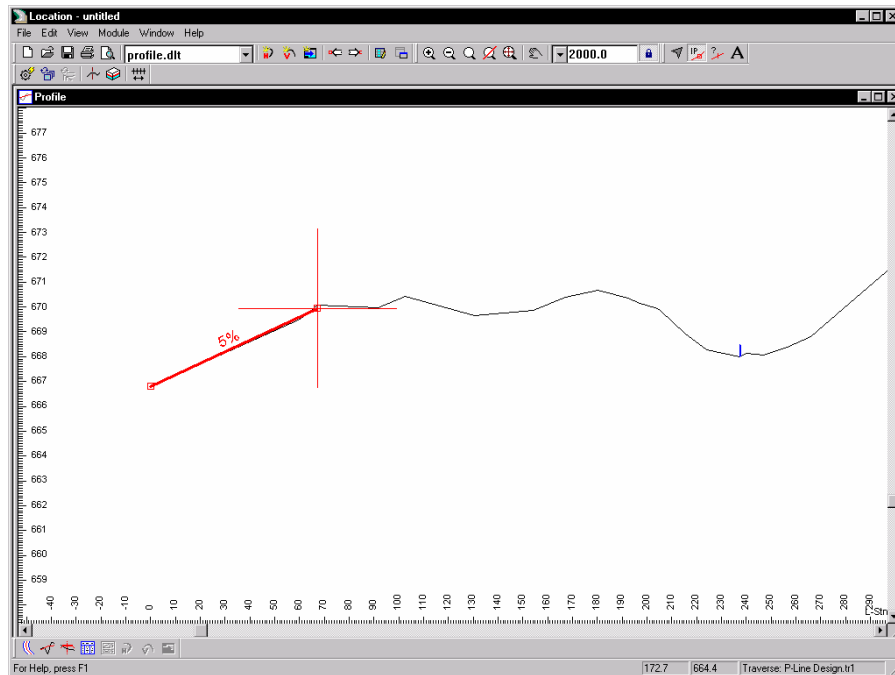

Figure 3.0: 1st Design Point
4. Position your cursor roughly at the cross-hairs location shown in the Figure 3.0.
13. Edit | Undo Profile Point Edit, to move the point back to where it was in Figure 3.0.
18. Move the new captured point to the position shown in Figure 3.0 and left click to anchor it.